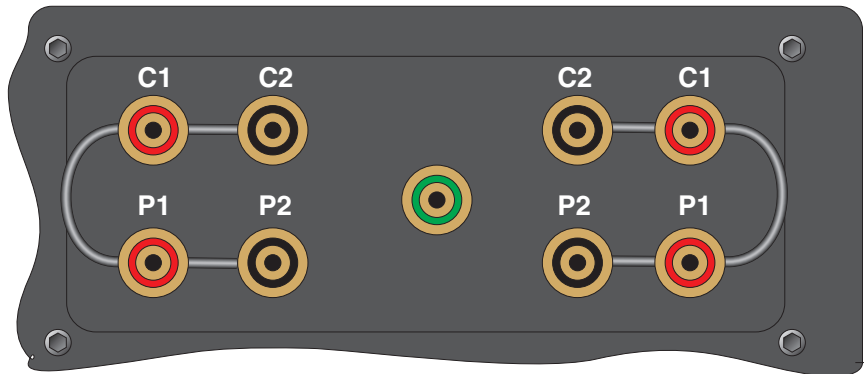

Figure 50 Using a Shorting Wire
1. Connect a 0 Ω resistor to the input and measure its resistance. If a shorting wire is used the wire should run from the C2 terminal to the C1 terminal to the P1 terminal to the P2 terminal (See Figure 50). Note the average error in the measurement. Adjust the C0 parameter by subtracting the measured error. For example, if the input is exactly 0.0000 and the readout shows -0.0011, adjust the C0 parameter by adding 0.0011.
1. Connect a 0 Ω resistor to the input and measure its resistance. If a shorting wire is used the wire should run from the C2 terminal to the C1 terminal to the P1 terminal to the P2 terminal (See Figure 50 on page 128). Note the average error in the measurement. Adjust the C0K parameter by subtracting the measured error. For example, if the input is exactly 0.0 Ω and the readout shows -0.11 Ω , adjust the C0K parameter by adding 0.11.